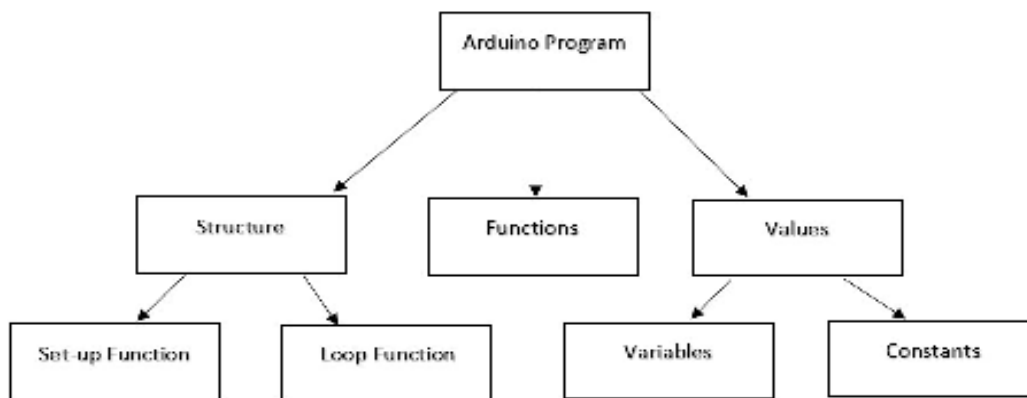

Figure 4.14 Arduino Sketch Structure
➤ **Figure 4.14 shows basic Arduino Sketch Structure.**
- ✓ Figure 4.14 shows the basic Arduino sketch structure.